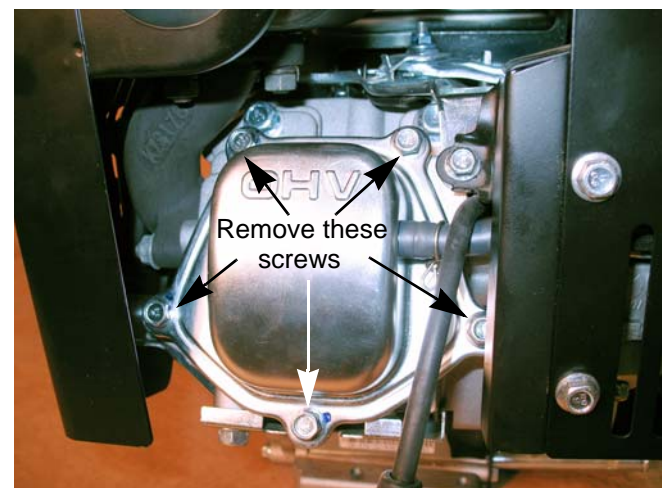

Figure 5.7
3. Remove the five screws that hold the valve cover to the cylinder head using a 10mm wrench. See Figure 5.7.